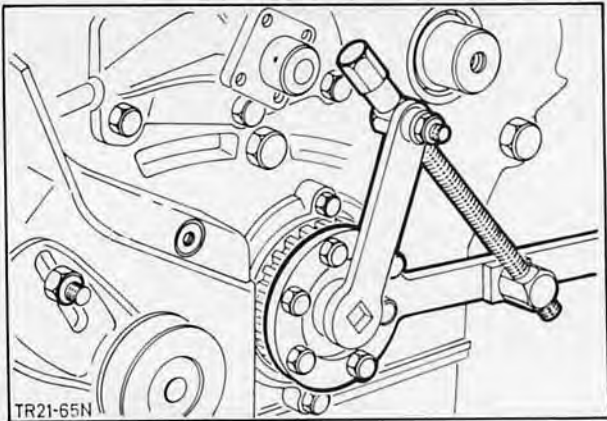

Fig. 83. Secure crankshaft journal bolt using Special Tool 21-018/019
- 62. Fit crankshaft journal centre bolt hand-tight and using Special Tool 21-018/019 torque as specified in Technical Data, Fig. 83.